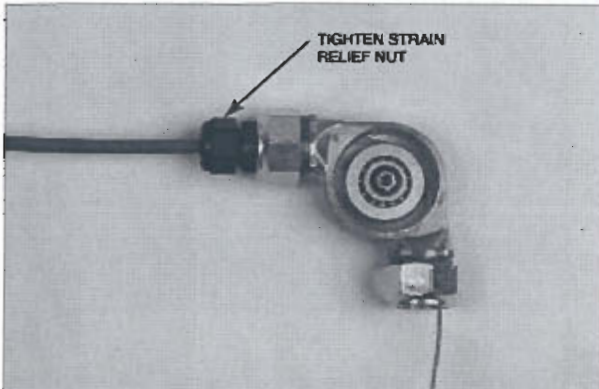

FIGURE 63
8. Tighten the strain relief nut onto the strain relief. See Figure 63.